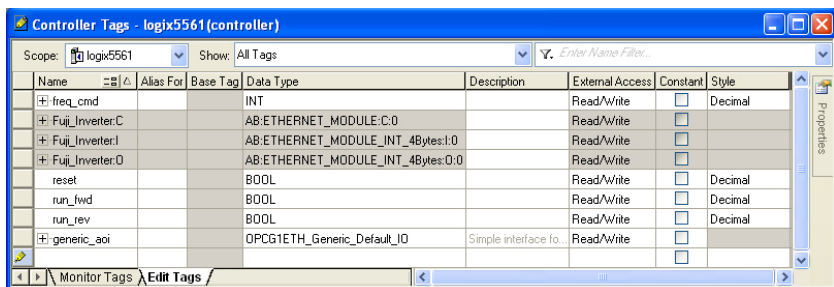

Figure 85: Create Generic Default AOI Tags
- 4) Create the tags in Figure 85.